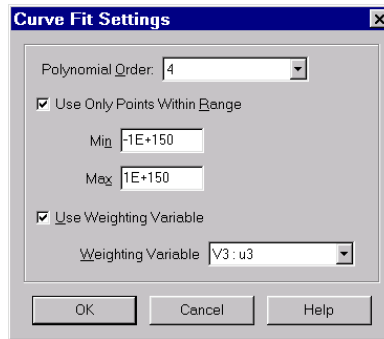

Figure 8-18. The Curve Fit Settings dialog.
By default, this option fits a line with the X-axis variable as the independent variable and the Y-axis variable as the dependent variable, using no weighting. Use the Curve Fit Settings dialog, shown in Figure 8-18, to specify a different settings:
2. Click Curve Settings. The Curve Fit Settings dialog will appear, as shown in Figure 8-18.